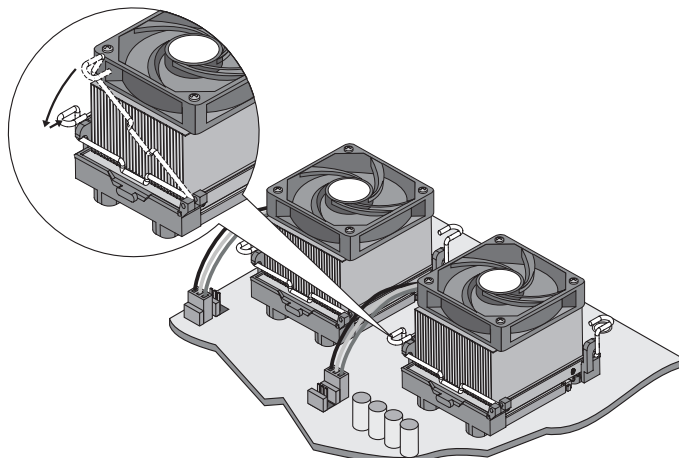

Figure 2-19: Securing heatsink
6. Close the locking lever on each bracket to secure the heatsink. To close the locking lever, press it down and properly place its handle under the hook on the bracket. Refer to Figure 2-19.
7. Connect the heatsink's cooling fan connector to the 2nd cooling fan connector (CPU 2 Fan) on the system board. Refer to Figure 2-19.